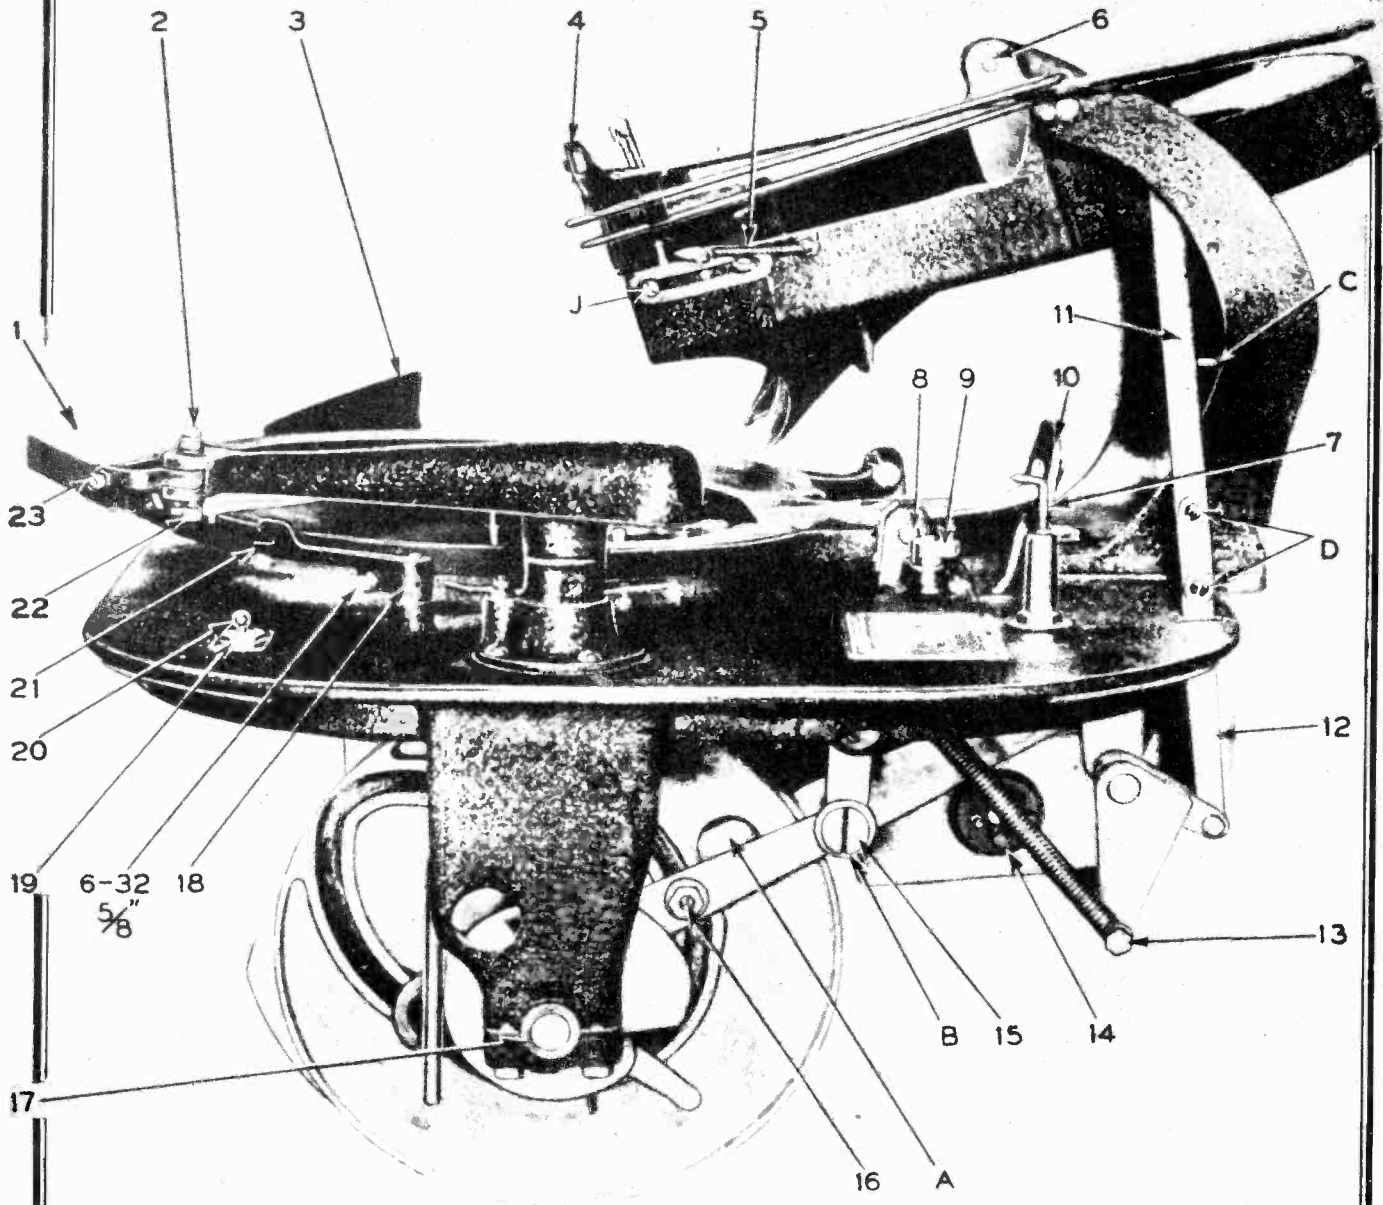
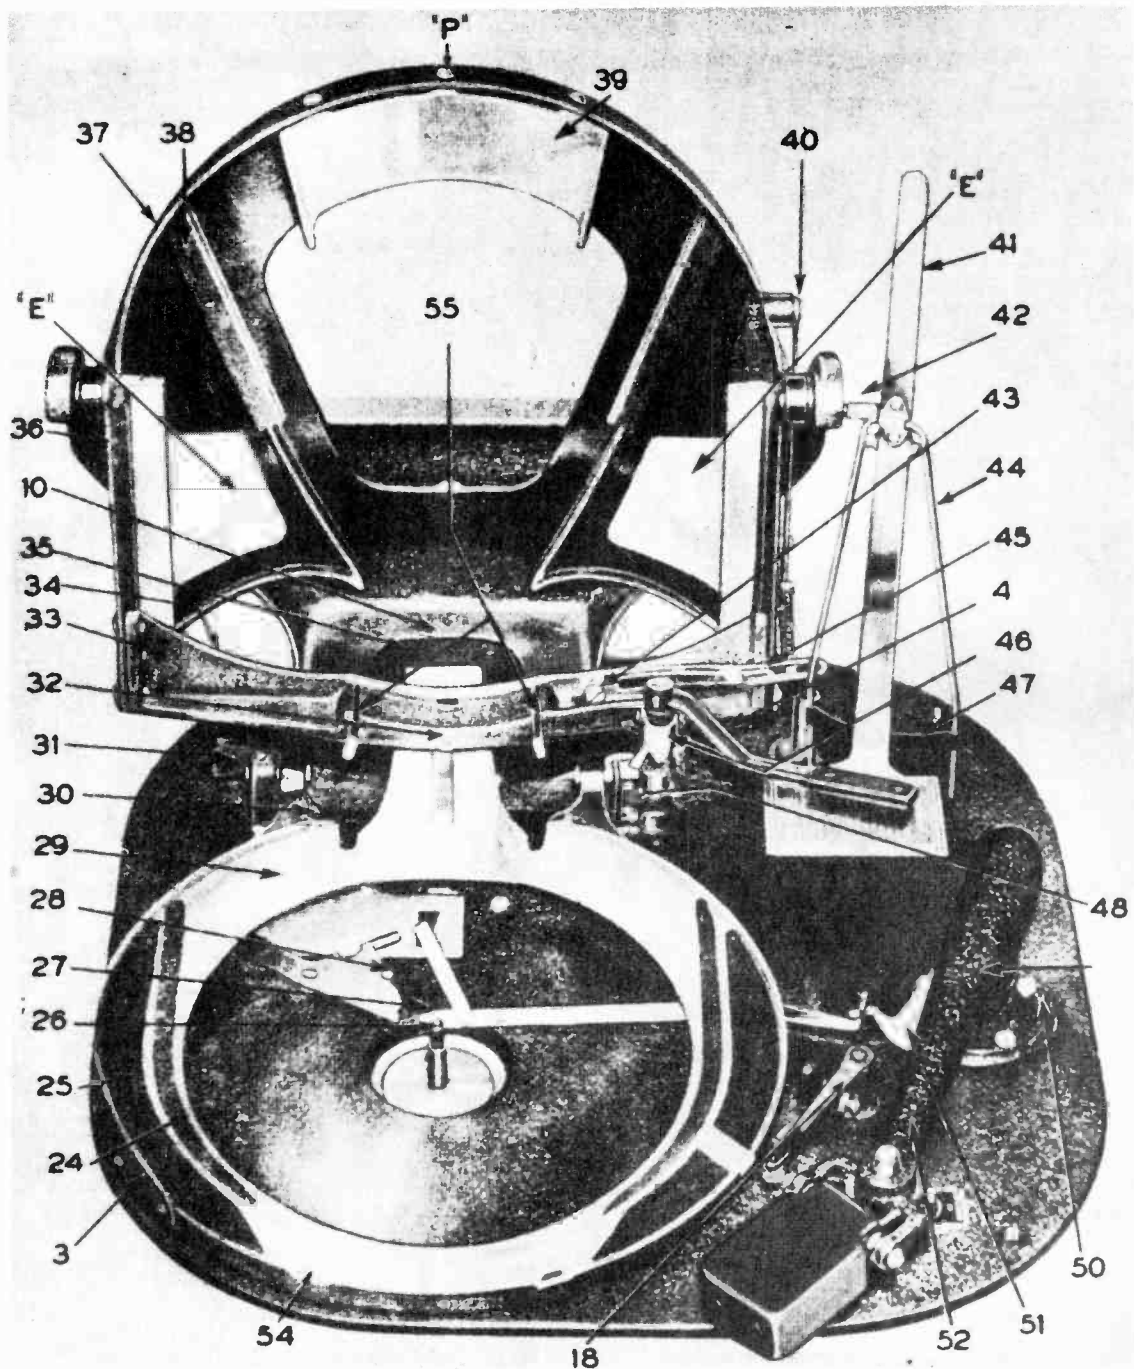

Fig. 1
Fig. 2
With the record changer in exactly the same position as described above, and with a 10" record on the turntable and the hook (22) (Fig. 1) against the blade, the stop lever should allow the needle to stop on the record $\frac{3}{32}$ " from the edge of the 10" record. A 6-32 screw shown in Fig. 1 is provided for making this adjustment, simply by screwing it in or out. A check should be made for clearance between the roller and the tray, this roller should never bind on the record tray. This can be taken care of by slightly bending the tone arm stop lever (18) (Fig. 1) up or down. If it is necessary to bend the stop lever it will be necessary to re-adjust for 12" records.
Before attempting to adjust the magazine, be sure that the center of the magazine pivot pins (6) (Fig. 1) is $8\frac{3}{8}$ " above the base plate. This height is very important and we recommend checking the height of the right hand pin, when looking at the magazine, before any adjustments are made.
If the magazine has been adjusted, it is also necessary to see that the record separator hook (7) (Fig. 1) does not bind in the slot in the end of the record separator arm (45) (Fig. 2). If it does the section covering these parts give the adjustment.
The magazine stop screw "C," Fig. 1, should be adjusted so that the crank pin (part of 9, Fig. 1) is approximately $\frac{1}{16}$ " from the edge of the record reverse arm fork (part of 4, Fig. 2) which is furthest from the magazine, when the record reverse guide is in front of the magazine, that is, in the reversing position.
With the two gears properly meshed, loosen the Allen set screws which hold pins No. 8, Fig. 1, in place. This will allow you to move the record tray sidewise, adjust tray sidewise until the turntable spindle is exactly in the center of the 10" record level of the record tray. (The 10" record level is that part of the tray where the felts No. 24 are indicated in Fig. 2.)
With the control lever in the "one side" position, run the record changer through its cycle until the large hole in the main cam is exactly half way past the upper edge of the record tray cam follower, as shown at "A," figure 1. At this position, the points of the ten-inch felts (24) (Fig. 2) should be level with the top of the turntable felt. If this tray is too low or too high, it may be adjusted to the proper level by loosening the eccentric screw (15) (Fig. 1) "B" and turning this screw until the proper level is obtained. Be sure to tighten the lock nut after adjustment.
10. TO ADJUST THE VERTICAL BUMPER GUIDE (10) (Fig. 2).
This guide is located back of the magazine cross bar (33) (Fig. 2). After the records are separated from the magazine they are guided in dropping off the separator so they hit the center of the record bumpers (31) (Fig. 2). This vertical bumper guide also guides the records when the elevating hook, on the rear of the record tray lifts the record. The vertical bumper should be set back just far enough to allow a 12" record to drop onto the record bumpers freely. The
lower part of the vertical bumper, which extends into the record well, should extend toward the center of the well rubber bumpers far enough to make sure that the upper edges of the records fall behind the points of the upper record support (39) (Fig. 2). This adjustment is not critical. In most cases it will be found that the upper end of the vertical bumper will just clear the elevating hook on the rear of the tray. In cases where it is found that 10" records are chipping about the edges, due to bouncing against the points of the upper record support (39) (Fig. 2) it will be necessary to bend the vertical bumper (10) (Fig. 2) back at the top to a point where it just barely clears the elevating hook at the rear of the tray. It should never be bent back far enough to raise the front of the tray.
11. RECORD REVERSE GUIDE (41) (Fig. 2).
With a 12" record in the magazine the record reverse guide assembly (41) (Fig. 2) should be parallel with the record when in the reversing position, in front of the magazine.
If the record reversing assembly is parallel with a 12" record as above, it should come around and lay against the reverse guide pin tubing (42) (Fig. 2), if the eccentric cam (77) (Fig. 4) is properly adjusted. This cam can be adjusted, by loosening the screw through the cam and turning it so that the record reversing assembly returns to the reverse guide pin tubing. Care should be taken when making this adjustment so that the crank pin (part of 9, Fig. 1) does not hold the reverse guide away from the pin tubing. This cam should be turned so that the reverse guide assembly just touches the pin tubing; if the cam is turned too far it will allow the reverse guide assembly to hit the pin tubing, but in the reversing position the assembly will not be able to assume a position parallel with a 12" record.
Loosen lock nut "H," Fig. 6, while the record changer is in the reversing position, that is, when the reversing assembly (41) (Fig. 2) is in front of the magazine. Remove the screw (79) (Fig. 4) holding the reverse segment link (80) (Fig. 4) to the reverse segment (61) (Fig. 4) and lengthen or shorten the link, by the link thread until the reversing crank (9) (Fig. 1) stands with the crank pin just barely touching, but not binding, against the front side of the fork (4) (Fig. 2). After the adjustment has been made, lock the link in place with the lock nut "H," Fig. 6.
When the tone arm swings in towards the record, the pickup arm lever hook (22) (Fig. 1) comes to rest against the pickup arm stop lever (18) (Fig. 1) and when the tone arm lowers the pickup toward the record it pauses momentarily before the pickup arm lever hook goes through the stop lever. If the record changer is stopped during this pause, it will be found that the ball in the end of the pickup arm lift shaft (87) (Fig. 5) is at the point marked "L" in Fig. 5 on the lift cam (86) (Fig. 5). Now if the pickup, with a needle in the proper position, is moved beyond the edge of the record, the point of the needle will extend below the top surface of the record a distance equal to half the thickness of the record. The correct elevation of the pickup is made by the screw in the underside of the tone arm fork against which the pickup cover rests. Loosen the locknut, adjust the screw to bring the needle to the position mentioned above, then lock the locknut.
The collar of the pickup arm swing lever and collar assembly (84) (Fig. 5) should ride on the leather facing of the friction cam (96) (Fig. 5) until the pickup arm lever hook (22) (Fig. 1) has engaged the stop lever (18) (Fig. 1). Then a slight amount of friction should be maintained after the ball at the end of the pickup lift arm (87) (Fig. 5) has engaged with the lift cam (86) (Fig. 5). This friction should be maintained until the needle has touched the record, otherwise the pickup arm may move away from the stop lever and the needle miss the record. If the friction be maintained too long the needle may be forced beyond the first playing groove. To adjust this, the pin locking the friction cam to the main cam shaft should be driven out and the Allen set screw loosened to a sliding tension. The cam is rotated forward, in the direction of rotation of the main cam shaft, to maintain the friction a longer time and backward to maintain it for a shorter time.
2. Remove the two bolts, one (60) (Fig. 3) securing the magazine slide and roller assembly to the magazine slide arm lever, and one (15) (Fig. 1) securing the record slide arm and stud assembly to the record tray drive crank.
6. Remove the screw marked "P" in Fig. 2. This is the middle of the screws of the upper record support.
7. Remove the magazine link shoulder screw No. 40 Fig. 2. This will allow the magazine to be swung parallel to the turntable, and take up less room.
10. Remove the two bolts, one (60) (Fig. 3) securing the magazine slide and roller assembly to the magazine slide arm lever, and one (15) (Fig. 1) securing the record slide arm and stud assembly to the record tray drive crank.
4. Replace the two bolts removed in (4) (6) (7) and (10) above.
5. Adjust the position of the record tray as described under: "9. TO LOCATE AND ADJUST THE RECORD TRAY", by adjusting screw 15 (Fig. 1).